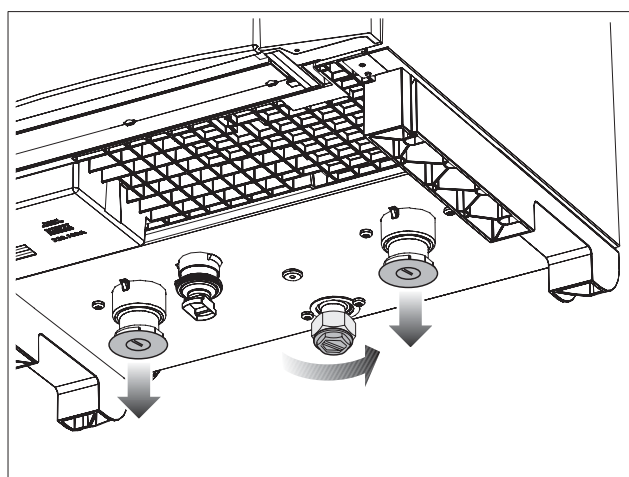

fig. 10 Removing the covers
- Remove the protective covers from the bottom of the boiler (fig. 10).